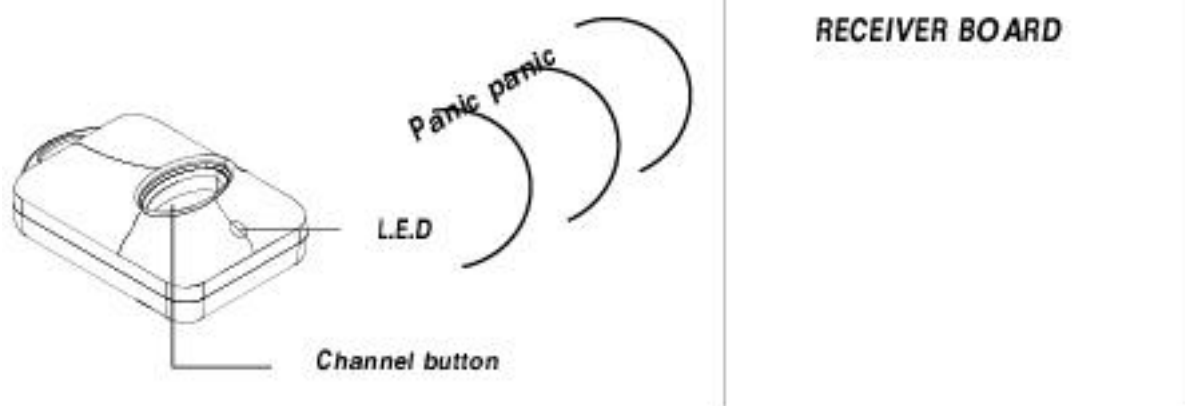

Fig. 1
2. L.E.D. -- Indicates that the button is being depressed. (Refer fig 1)